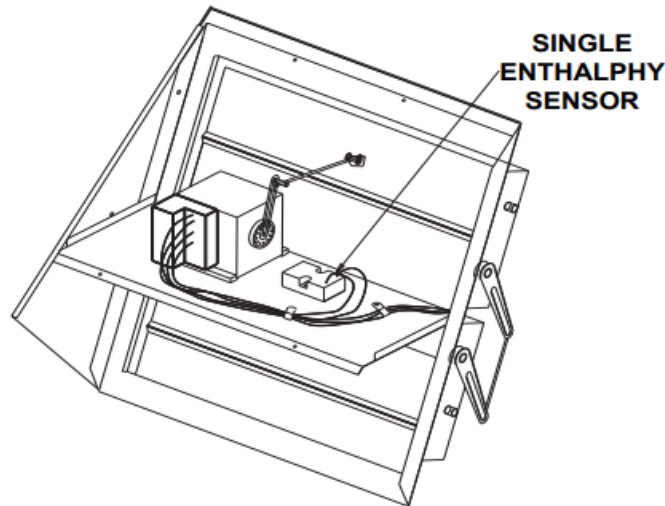
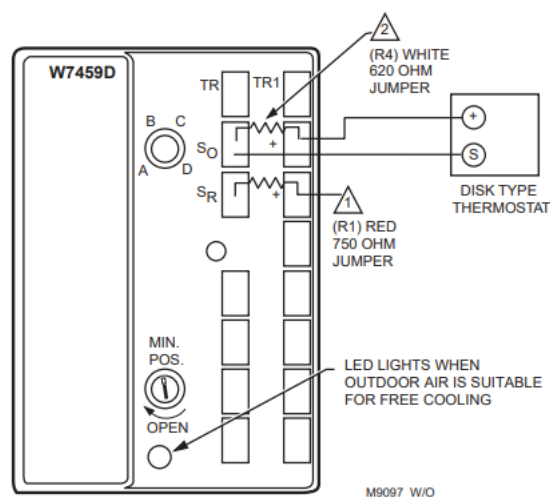
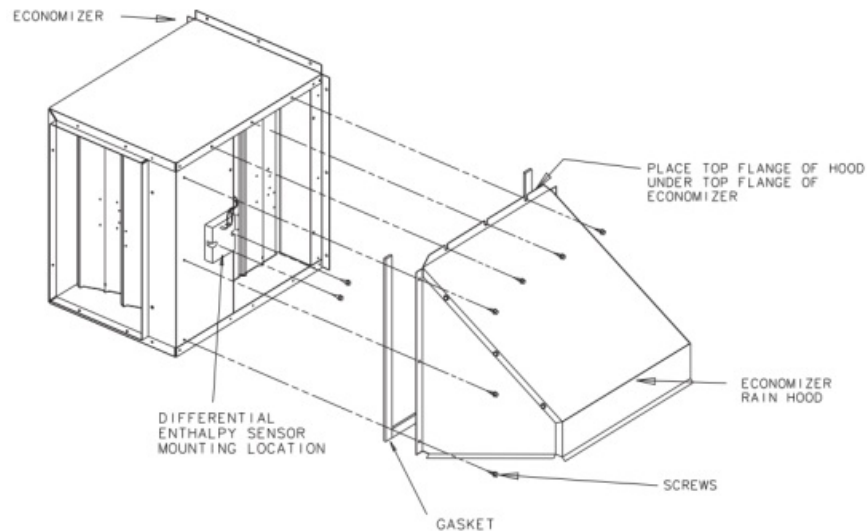

Figure 1.
Figure 3. Control module before installation
Figure 6.
3. Next, disconnect the wires 56A and 50A(YL) from the thermostat.
4. Using the two screws removed in step 2, mount the Enthalpy sensor in the thermostat's previous location, Figure 1.
5. Connect wire 56A to S and 50A(YL) to + terminals on the Enthalpy Sensor.
6. On the Control Module (Solid State Economizer Logic Module) attached to the Economizer Motor, remove the red resistor from terminals SR and + and discard. See Figure 3.
4. Using the two screws removed in step 2, mount the Enthalpy sensor on the outside face of the economizer. See Figure 6.
5. Connect wire 56A to S and 50A(YL) to + terminal on the Enthalpy sensor.
6. Remove the filter access panel on the return side of the unit reach into the Control Module attached to the Economizer Motor, remove the red resistor from terminals SR and + and discard. See Figure 3.
2. Mount the second enthalpy sensor in the return air stream See Figure 6.